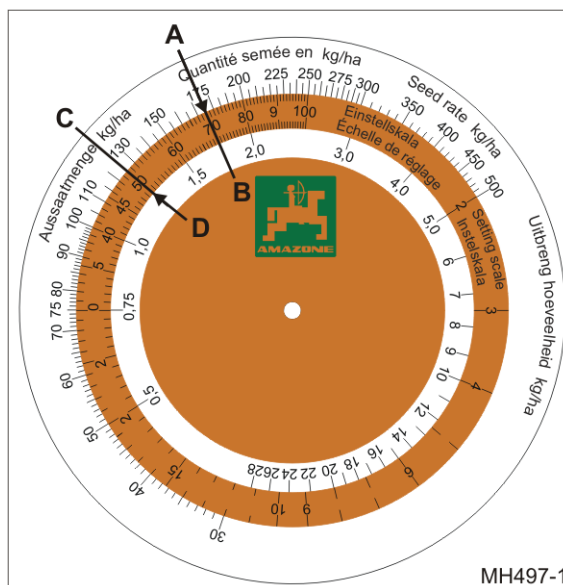

Fig. 56
- o Calculated application rate 175 kg/ha (Fig. 56/A)
- o Gearbox setting 70 (Fig. 56/B) opposite one another on the calculating disc rule.
2. Read the gearboX setting for the desired seeding rate of 125 kg/ha (Fig. 56/C) from the calculating disc rule.
- Gearbox setting 50 (Fig. 56/D).